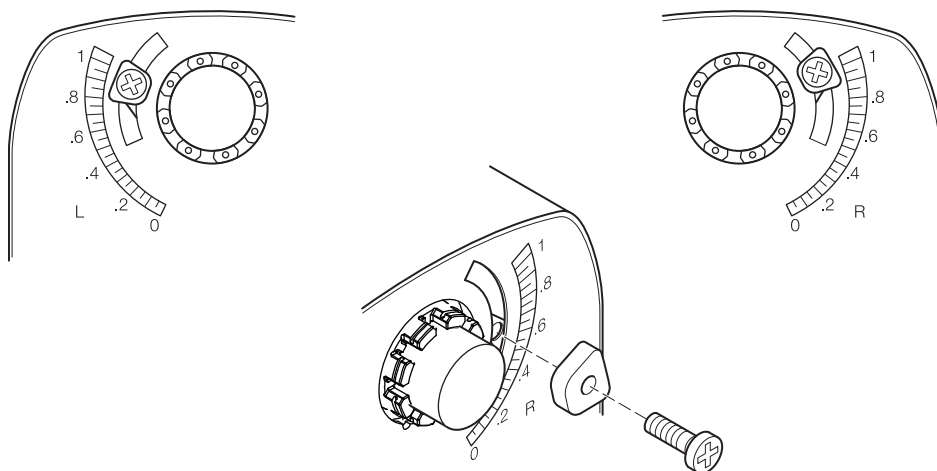

Figure-7 Adjusting Stop Block for Limited Rotation.
3. Slide the stop block into position, so that its edge lines up with the degree graduation on the actuator face which corresponds with the required rotation. See Figure-7.